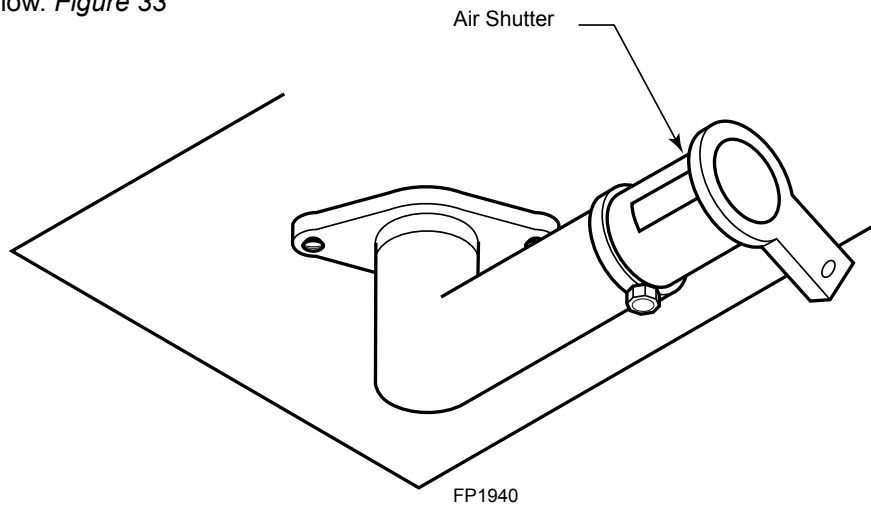

**Figure 32 -
- To increase air mixture, open the shutter more. This will reduce soot formation. *Figure 32*